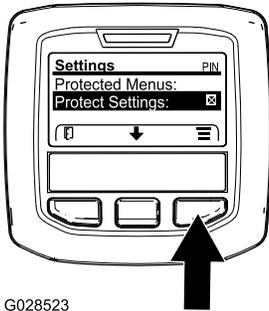

Figure 15
1. From the MAIN MENU, use the center button to scroll down to the SETTINGS MENU and press the right button (Figure 15).